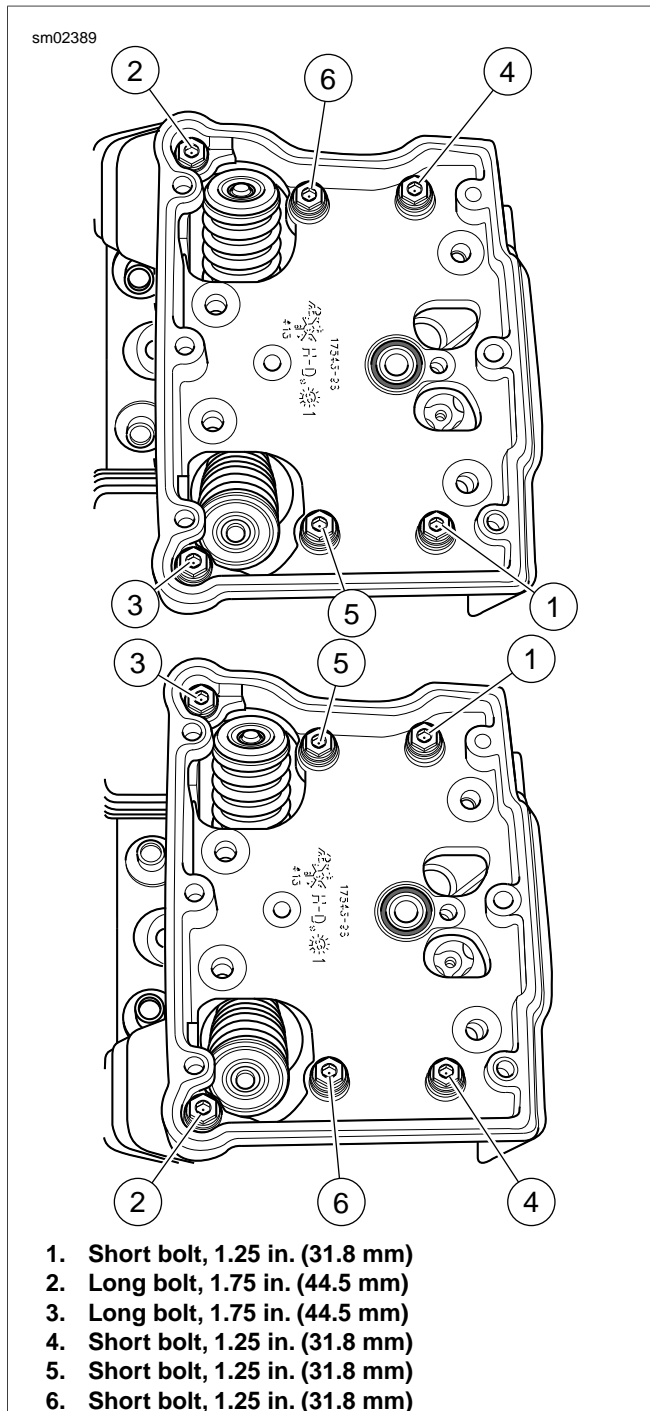

Figure 3-38. Rocker Housing Torque Sequence and Bolt Size
8. See Figure 3-38. Apply a small dab of LOCTITE THREADLOCKER 243 (blue) to threads of six rocker housing bolts. Loosely install the rocker housing bolts. Place two long bolts on the left side of the engine and four intermediate bolts in the interior. Alternately tighten the bolts to 120-168 **in-lbs** (13.6-19.0 Nm) in the sequence shown.